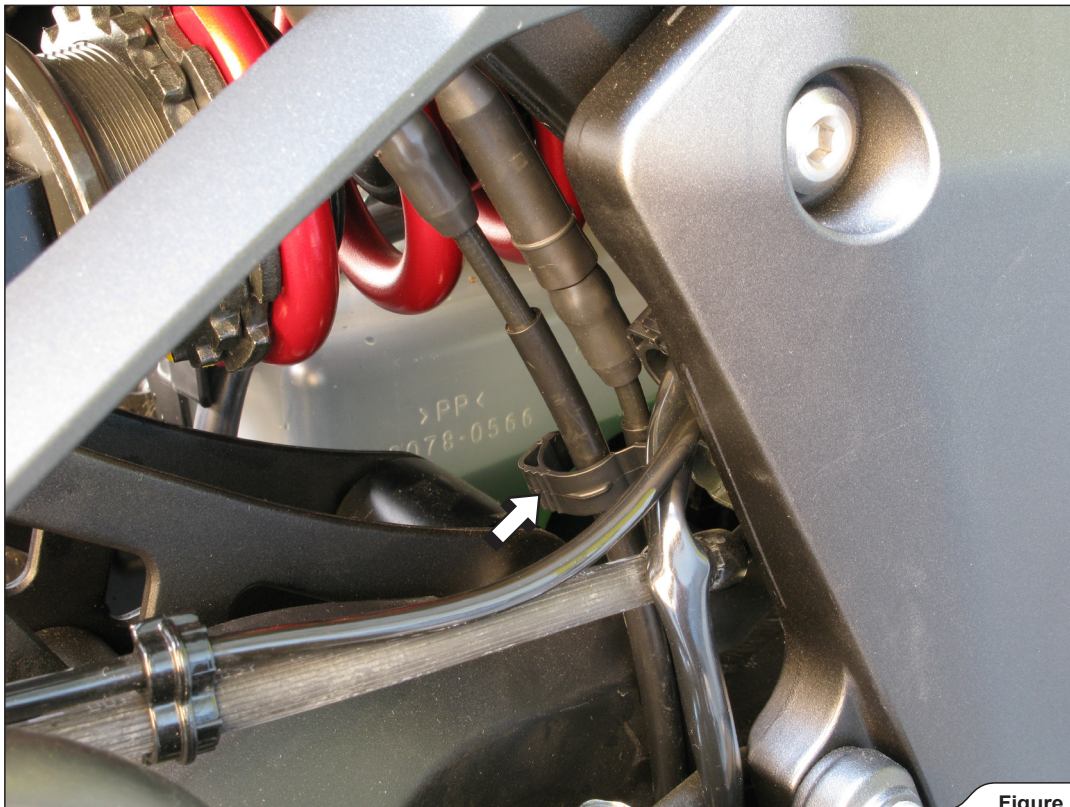

Figure 5
5. **For Z1000 model only:** undo the cables' plastic fastener and unscrew the cables' bracket (**Figure 5, 6**).